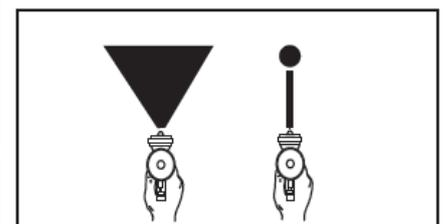

Figure 8. Fan adjustment.
2. Rotating the pattern adjustment control in will give you a range between the two patterns in Figure 8. .